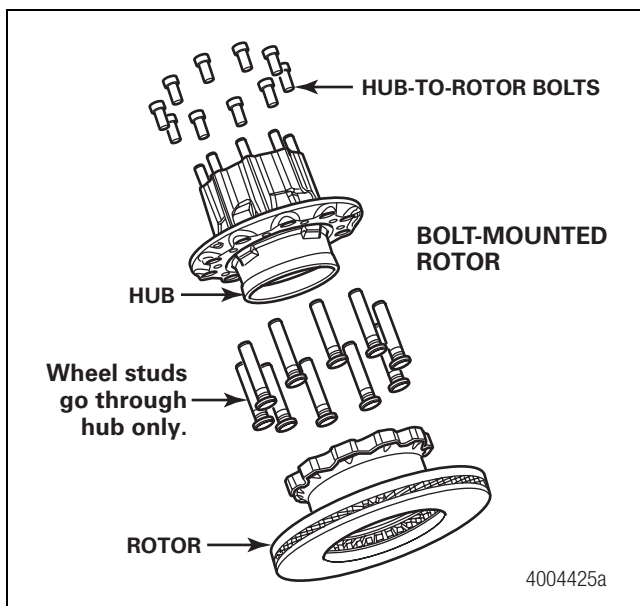

Figure 16
- **For bolt-mounted rotors:** Unscrew the hub-to-rotor bolts. Figure 16.
- **For bolt-mounted rotors:** Tighten the hub-to-rotor bolts to 175-195 lb-ft (238-265 N•m). Figure 16.